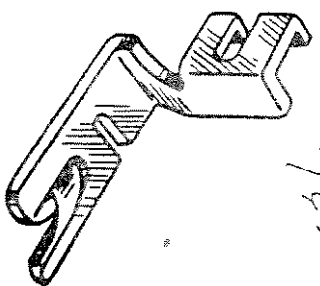

Fig. 50
Narrow Hemmer: With needle at its highest position replace regular presser foot with narrow hemmer (Fig. 50) being sure to tighten it securely in place. Set decorative stitch dial at manual position, zigzag stitch width lever at 0 for straight stitched hem or at number 3 for zigzag stitched hem. Set stitch length control to suit.
9. Small Hemmer Foot Fig. 50